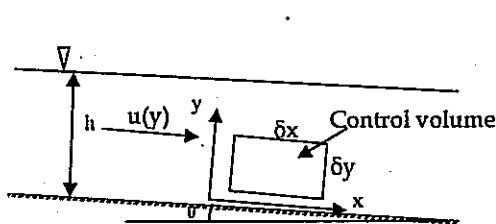

Figure 2
A fluid of density  $\rho$  and dynamic viscosity  $\mu$  flows in a wide open channel that has a small angle of slope  $\theta$ , as shown in Figure 2. The flow is steady, two-dimensional and uniform in the  $x$  direction. The depth of the flow is  $h$ . The flow is laminar.
d) Apply the principle of conservation of momentum (force momentum relation) to the elemental control volume shown in Figure 2 and obtain a relationship between the gradient of the shear stress  $d\tau/dy$  and the slope of the channel. State all assumptions and explain your answer.